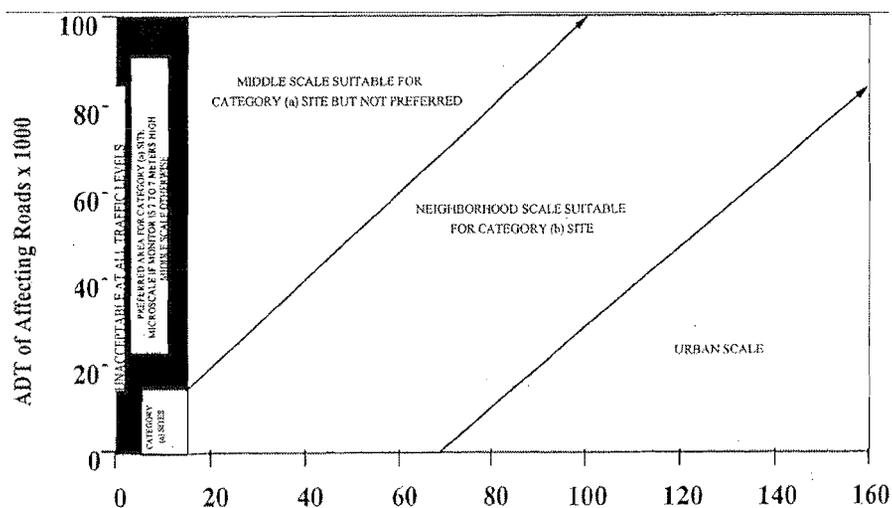

Figure E-1. Distance of PM samplers to nearest traffic lane (meters)
- For neighborhood sites, the distances from the nearest traffic lane depends on the traffic flow. Refer to **Figure E-1**.